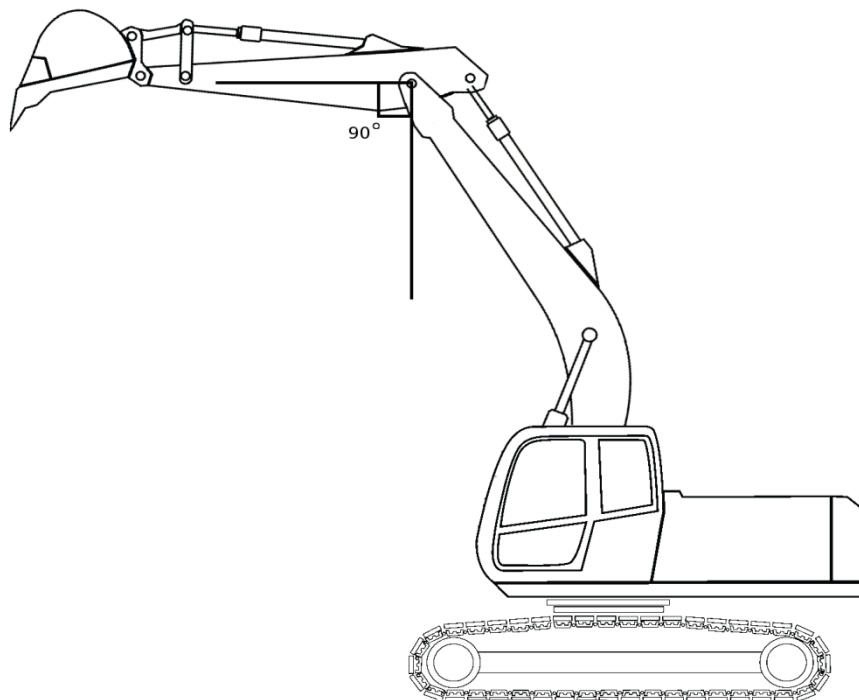

Figure 25. Stick horizontally
- Align stick horizontally (Figure 25). When at least one of the numbers are on black background, press “0.0” to calibrate. Do not move the boom while the calibration is in progress.